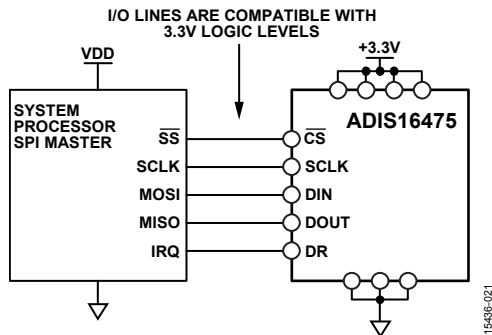

Figure 19. Electrical Connection Diagram
The SPI provides access to the user registers (see Table 8). Figure 19 shows the most common connections between the ADIS16475 and a SPI master device, which is often an embedded processor that has a SPI-compatible interface. In this example, the SPI master uses an interrupt service routine to collect data every time the data ready (DR) signal pulses.